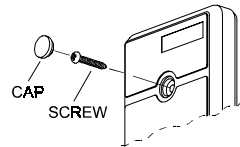

Figure 2. Cover Assembly
Remove the screw from the front cover (Fig. 2) and separate the front cover from the base.
H. Secure the front cover with the screw and screw cap (Fig. 2).